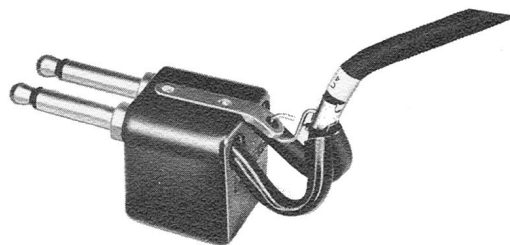

Figure 4: Transistor Amplifier, After Installation in Plug
- 6: Re-assemble the plug by nesting the two brass phone plugs in the top of the transistor amplifier (open side of plugs down, as shown), placing the upper half of the 289B plug over each, inserting the strain relief bracket in its proper slot and assembling, using the two long machine screws (6-40 X 1-5/16") furnished. Figure 4 illustrates the completed plug assembly.